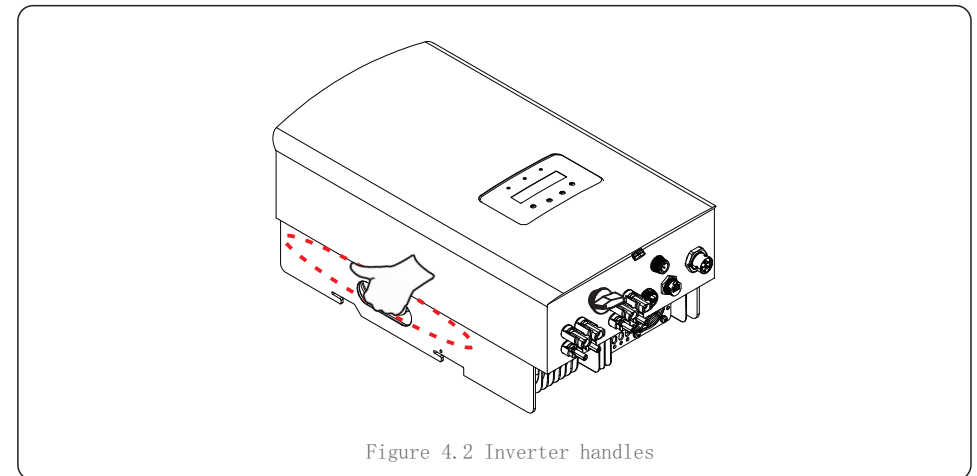

Figure 4.2 Inverter handles
2.Open the carton, then handle both sides of inverter through the area denoted dotted line. (see figure 4.2).